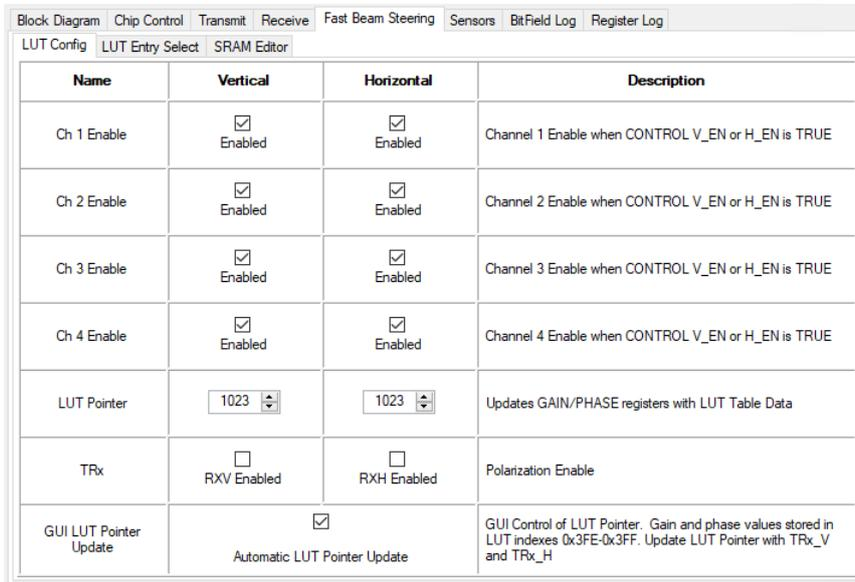

Figure 24. Fast Beam Steering Panel: LUT Configuration
The LUT Configuration subpanel in Figure 24 allows users to quickly enable/disable specific channels for both horizontal and vertical polarizations. The **Automatic LUT Pointer Update** checkbox should always be selected so that the GUI will control and automatically update the LUT pointer. In manual operations, the GUI will store gain and phase values in the LUT indexes 1022 (for TX) and 1023 (for RX), which will be automatically updated with TRxV and TRxH settings.
6. Fast Beam Steering Tab -> LUT Config Tab -> Vertical Ch 1 Enable = Enabled (checked, Figure 24).
7. Fast Beam Steering Tab -> LUT Config Tab -> Vertical Ch 2 Enable = Enabled (checked, Figure 24).
8. Fast Beam Steering Tab -> LUT Config Tab -> Vertical Ch 3 Enable = Enabled (checked, Figure 24).
9. Fast Beam Steering Tab -> LUT Config Tab -> Vertical Ch 4 Enable = Enabled (checked, Figure 24).
6. Fast Beam Steering Tab -> LUT Config Tab -> Horizontal Ch 1 Enable = Enabled (checked, Figure 24).
7. Fast Beam Steering Tab -> LUT Config Tab -> Horizontal Ch 2 Enable = Disabled (unchecked, Figure 24).
8. Fast Beam Steering Tab -> LUT Config Tab -> Horizontal Ch 3 Enable = Disabled (unchecked, Figure 24).
9. Fast Beam Steering Tab -> LUT Config Tab -> Horizontal Ch 4 Enable = Disabled (unchecked, Figure 24).
6. Fast Beam Steering Tab -> LUT Config Tab -> Vertical Ch 1 Enable = Disabled (unchecked, Figure 24).
7. Fast Beam Steering Tab -> LUT Config Tab -> Vertical Ch 2 Enable = Disabled (unchecked, Figure 24).
9. Fast Beam Steering Tab -> LUT Config Tab -> Vertical Ch 4 Enable = Disabled (unchecked, Figure 24).
7. Fast Beam Steering Tab -> LUT Config Tab -> Horizontal Ch 2 Enable = Enabled (checked, Figure 24).
8. Fast Beam Steering Tab -> LUT Config Tab -> Horizontal Ch 3 Enable = Enabled (checked, Figure 24).